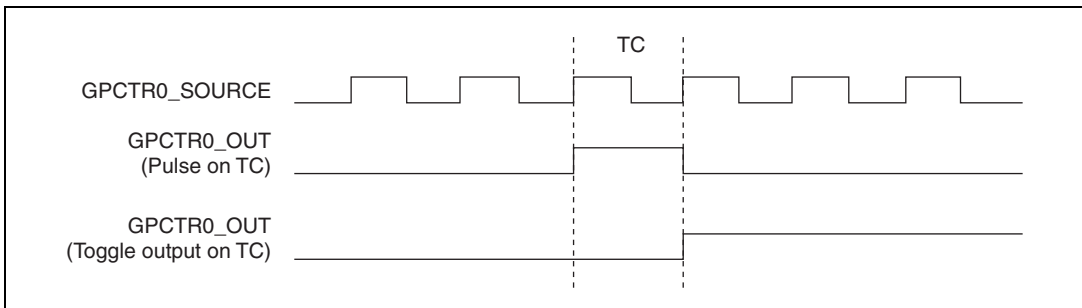

Figure 4-32. GPCTR0_OUT Signal Timing
This signal is available as an output on the GPCTR0_OUT pin. The GPCTR0_OUT signal reflects the terminal count (TC) of general-purpose counter 0. You have two software-selectable output options: pulse on TC and toggle output polarity on TC. The output polarity is software-selectable for both options. This output is set to high-impedance at startup. Figure 4-32 shows the timing of GPCTR0_OUT.